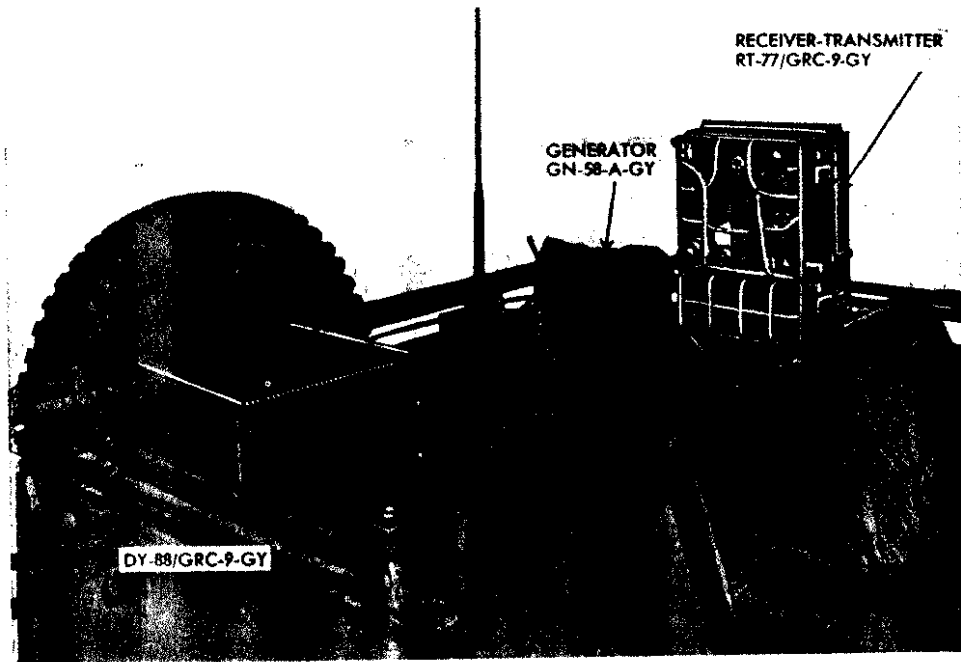

Figure 44. Typical vehicular installation of radio set AN/GRC-9-GY.
(fig. 44)
e. A typical vehicular installation of Radio Set AN/GRC-9-GY is shown in figure 44.